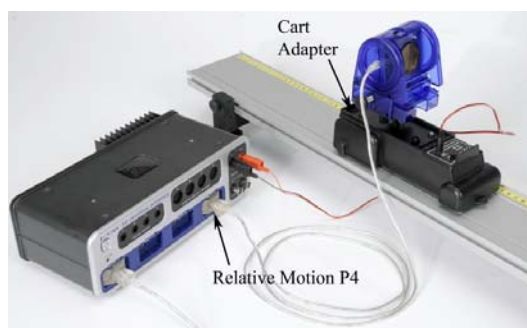

Figure 2: Motorized Cart with Motion Sensor
2. The Motion Sensor on the Motorized Cart **MUST** be plugged into PASPORT port #4 as shown in Figure 2. Plug the Motorized Cart power cord into Output #1, and make sure it is on the OFF/EXTERNAL SETTING.